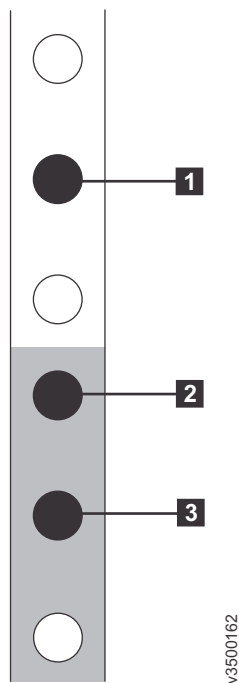

Figure 10. Hole locations in the front of the rack
4. Working at the front of the rack cabinet, identify the two standard rack units (2U) of space in the rack into which you want to install the support rails. Figure 10 shows two rack units with the front mounting holes identified.